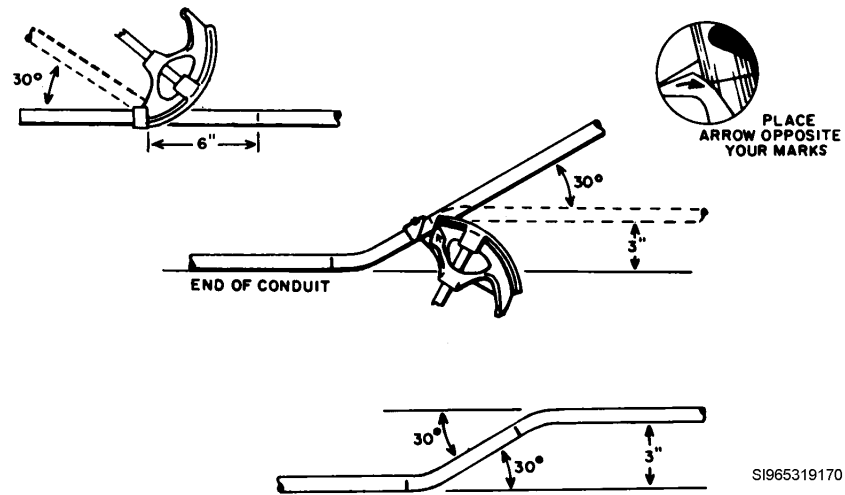
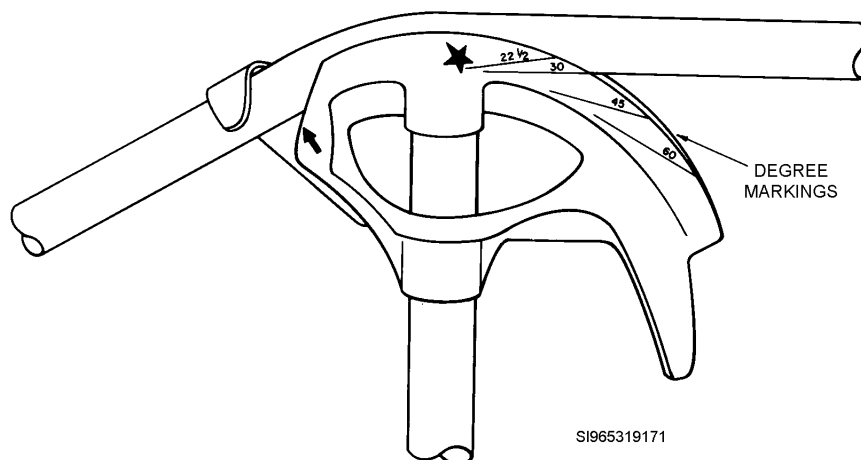

Figure 6. Bending an offset
Figure 7. Bender degree markings.
- To make accurate offsets of 2 inches or more in depth, a predetermined distance can be marked on the conduit. The distance between the bends depends on the depth of the offset and the amount of bend that you are going to use. Figure 6 shows the formula you should use to find the distance to be marked on the conduit. It also shows the constant multiplier that must be used in the formula for the angle of bends you intend to use. Let's use an example to see how the formula works. Suppose you need to avoid a part of a structure that requires a 3-inch offset and you are going to use 30° bends.
- Figure 6 shows that the constant multiplier for 30-inch bends is two. Using the formula, multiply the depth of the offset (3 inches), times the constant multiplier (2 inches), and the result is the distance needed between the bends (6 inches). You place the marks for the bends 6 inches apart and, using the arrow of the bender, make a 30° bend on the same side of each mark, as shown in figure 6. In this example, a 30° bend gives us the offset we need. If you make both bends inside the marks, you'll end up with much less than the desired offset. If you make both bends outside the marks, you'll have too much offset. The amount of bend, in this case 30° at each mark, is obtained by using the degree markings on the bender. Notice that the side of the conduit closest to the bender is in line with the 30° marking on the bender, as shown in figure 7. If you have a bender without markings, you can make a layout of a 30° angle on a large piece of paper or on the floor with chalk. Then check the bend against the 30° angle of the layout. Normally, offsets are made by making the first bend on the floor and the second bend in the air.